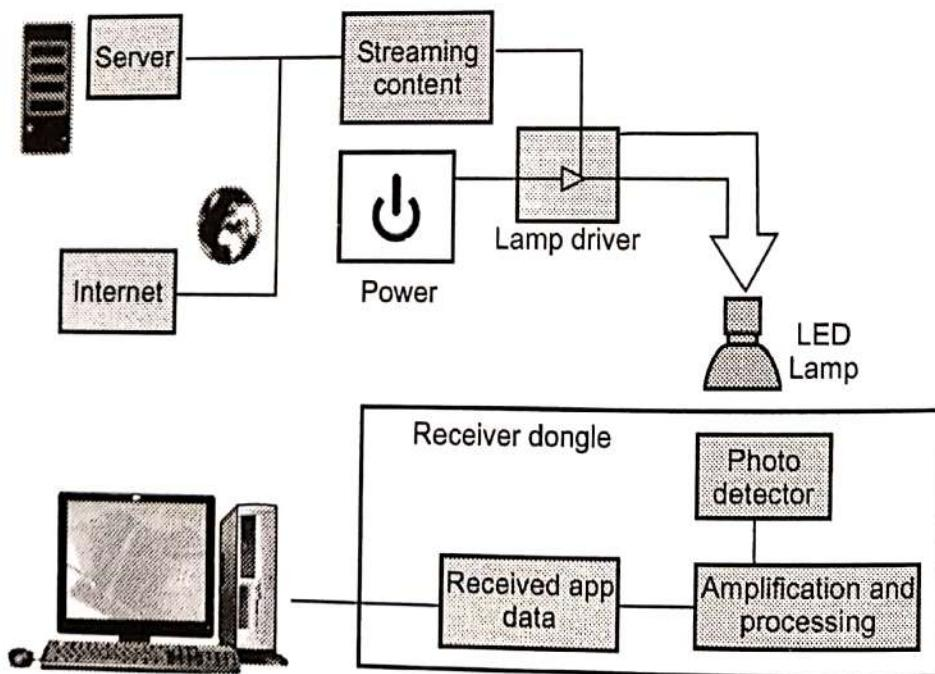

Fig. 3.2.5 : Working of Li-Fi
- Fig. 3.2.5 shows working of Li-Fi.